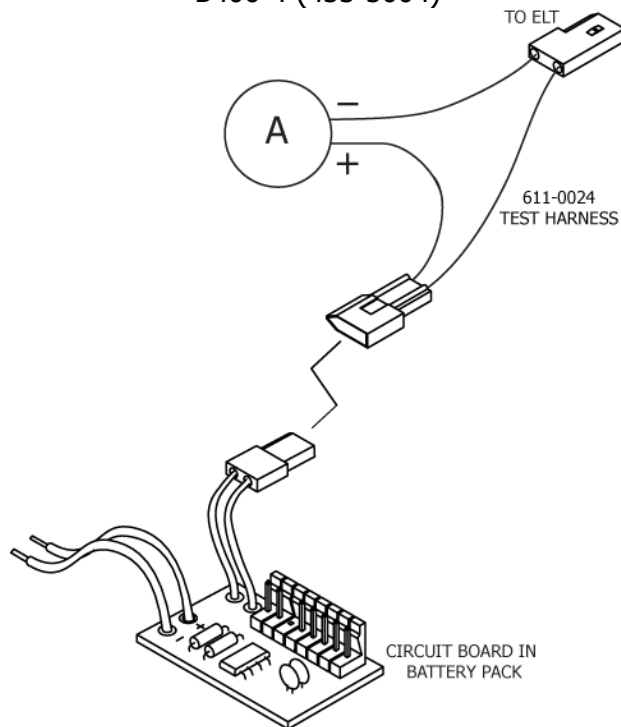

Figure 8 Current Draw Test Setup
- 4) Install test harness 611-0024, or equivalent, in the power circuit. See Figure 8 Current Draw Test Setup on page 32.